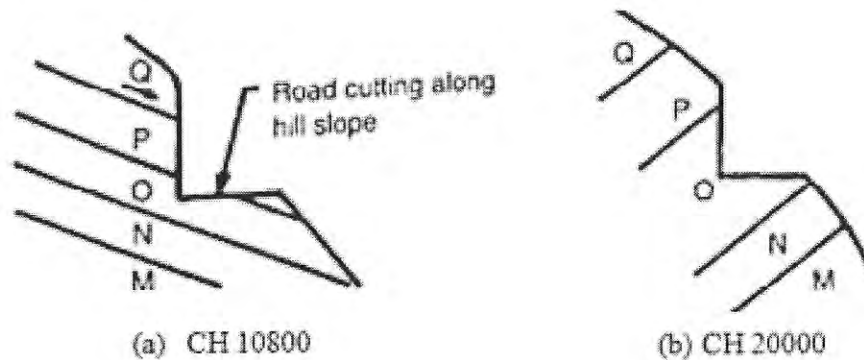

Figure Q2(d): Road construction on rock slope
- (d) A road will be constructed in a hilly area. The contractor decides to cut the rock slope at CH 18000 and CH 20000 as shown in **Figure Q2(d)**. Discuss the effect of cutting slopes during construction and on the safety of road user after the road is open to the public.